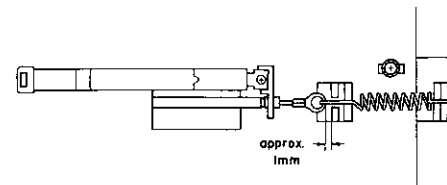

Fig. 4.24.2
- (3) Set the N-660ZX in record and pause mode. Check to insure that the gap between the top of the wire and the Record Spring Holder is approx. 1 mm as shown in Fig. 4.24.2. (Check that the Record Switch is in Record position.)
- (4) Upon completion of the above adjustments, apply a quantity of lock tight paint.